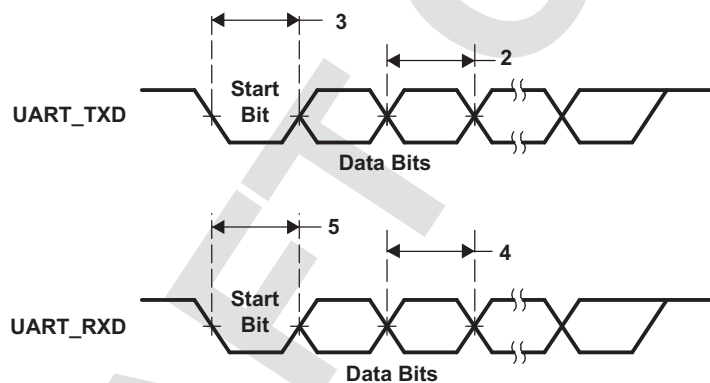

Figure 6-27. UART Transmit/Receive Timing
Table 6-29. Timing Requirements for UART Receive(1)(2) (see Figure 6-27)
- (1) U = UART baud time = 1/programmed baud rate.
- (2) These parametric values are measured at DVDDIO = 3.3 V, 2.75 V, and 2.5 V
Table 6-30. Switching Characteristics Over Recommended Operating Conditions for UART Transmit(1) (2) (see Figure 6-27)